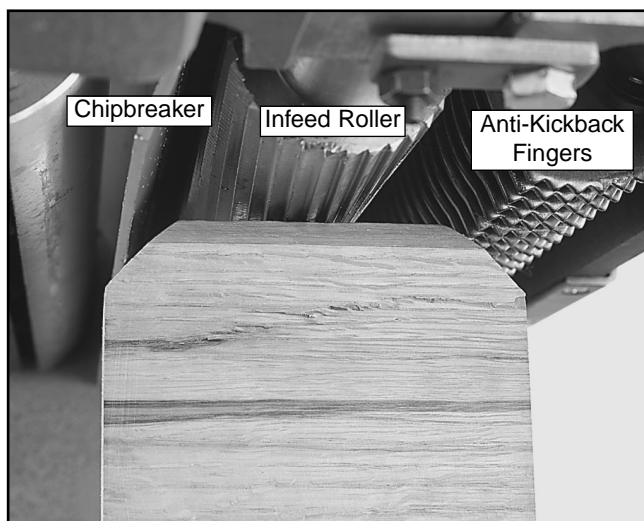

Figure 23. Feed roller height inspection.
3. Raise the table until the gauge block barely touches the infeed roller. **See Figure 23.** Do not change position of the table.